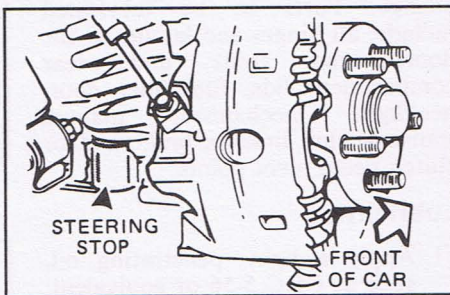

Figure 2 - Front suspension
3. Apply a small quantity of lubricant to the metal steering stops. See Figure 2.